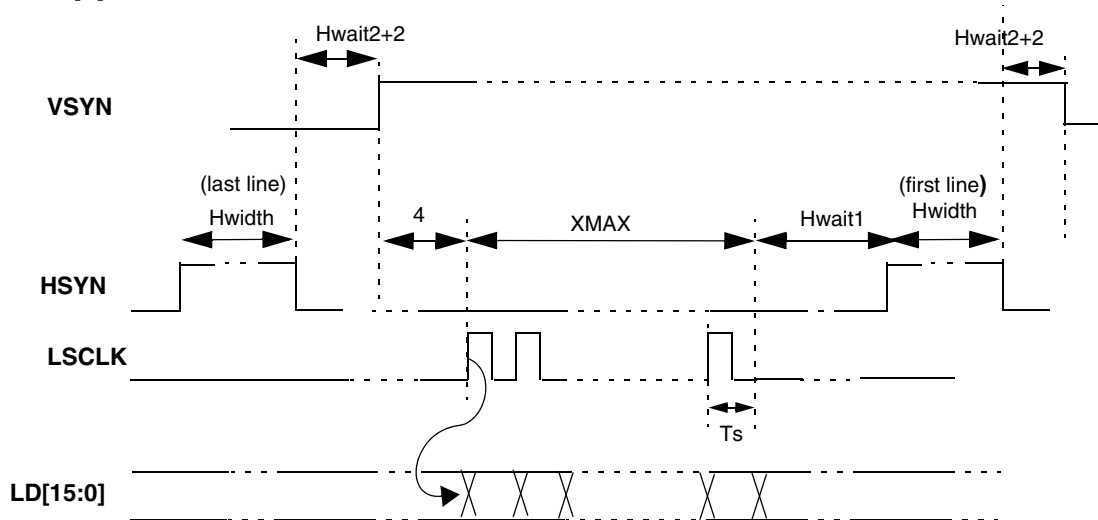

Figure 17-12. Horizontal Sync Pulse Timing in Passive Mode
Figure 17-12 on page 17-14 shows the horizontal timing (timing of one line), including both the line pulse (LP) and the data. The width of LP and delays both before and after LP are programmable. The parameters used for panel interface timing are: